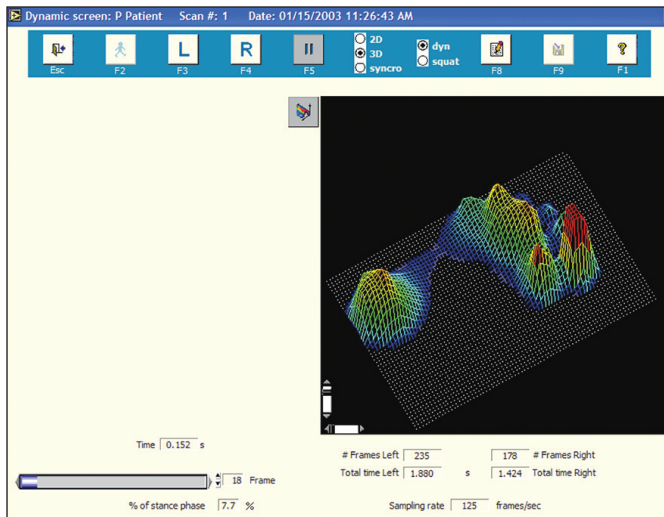

Figure 1.
- Multicolored gait and pressure graphics 2D/3D (Figure 1)